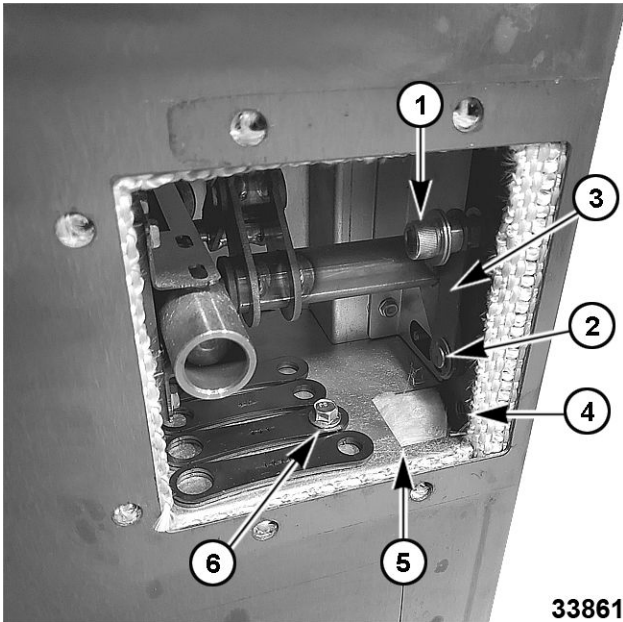

Fig. 77
NOTE: To prevent hardware from dropping into the inside of the door, cover the open space (5, Fig. 77) under latch arms.
- B. Remove 3/8" bolt (1, Fig. 77). DO NOT discard the tube, bolt, or washer.
- C. Remove E-clip and pin (2, Fig. 77). DO NOT discard the E-clip or Pin.
- D. Replace two latch arms (3, Fig. 77) with parts supplied. Reassemble inner mechanism, making sure linkage arms are located in the up position. Place unused arms in latch box and secure with 1/4-20 x 3/4" hex head serrated flange screw (6, Fig. 77). Reattach inner door handle.
NOTE: For left hand hinge, bolt and arms must be flipped and mounted to left-hand hinge hole (4, Fig. 77). Place unused arms in latch box and secure with 1/4-20 x 3/4" hex head serrated flange screw (6, Fig. 77).